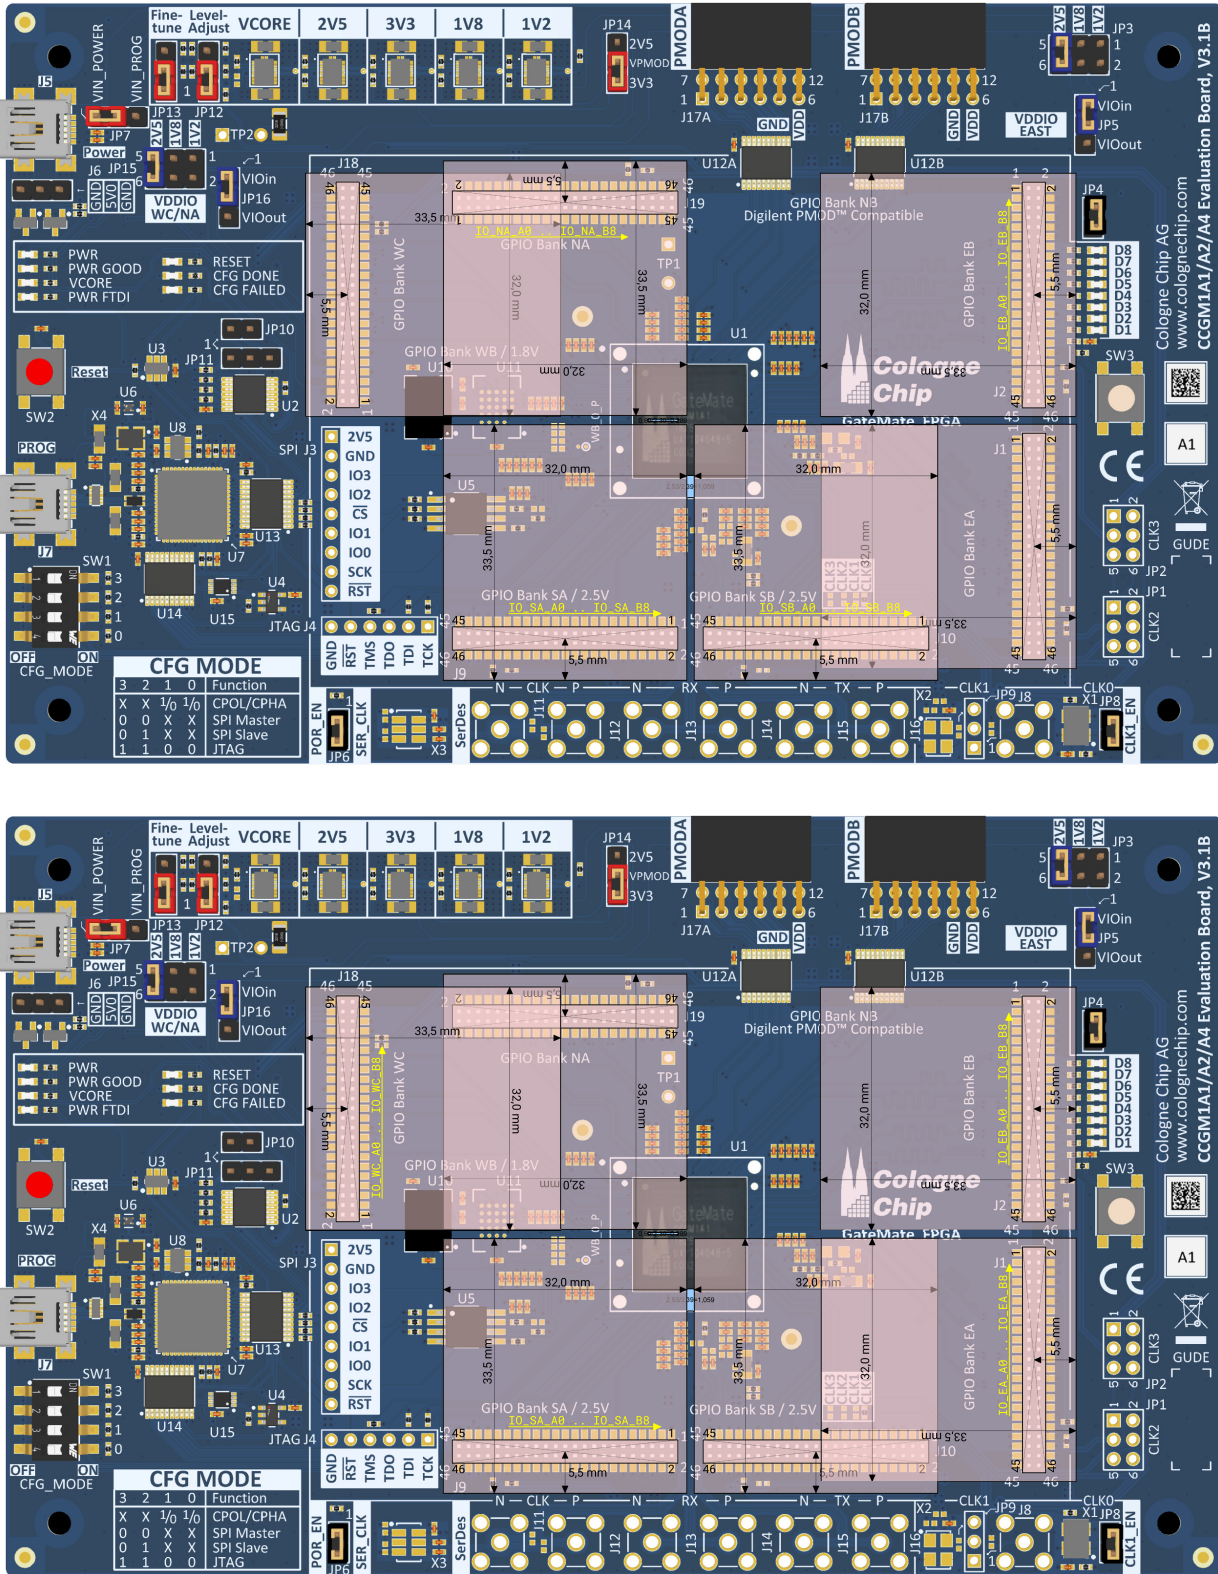

Figure 2.3: Examples of assembling several 1-bank user applications at the same time
- b) several user PCBs can be used at the same time as shown in Figure 2.3.